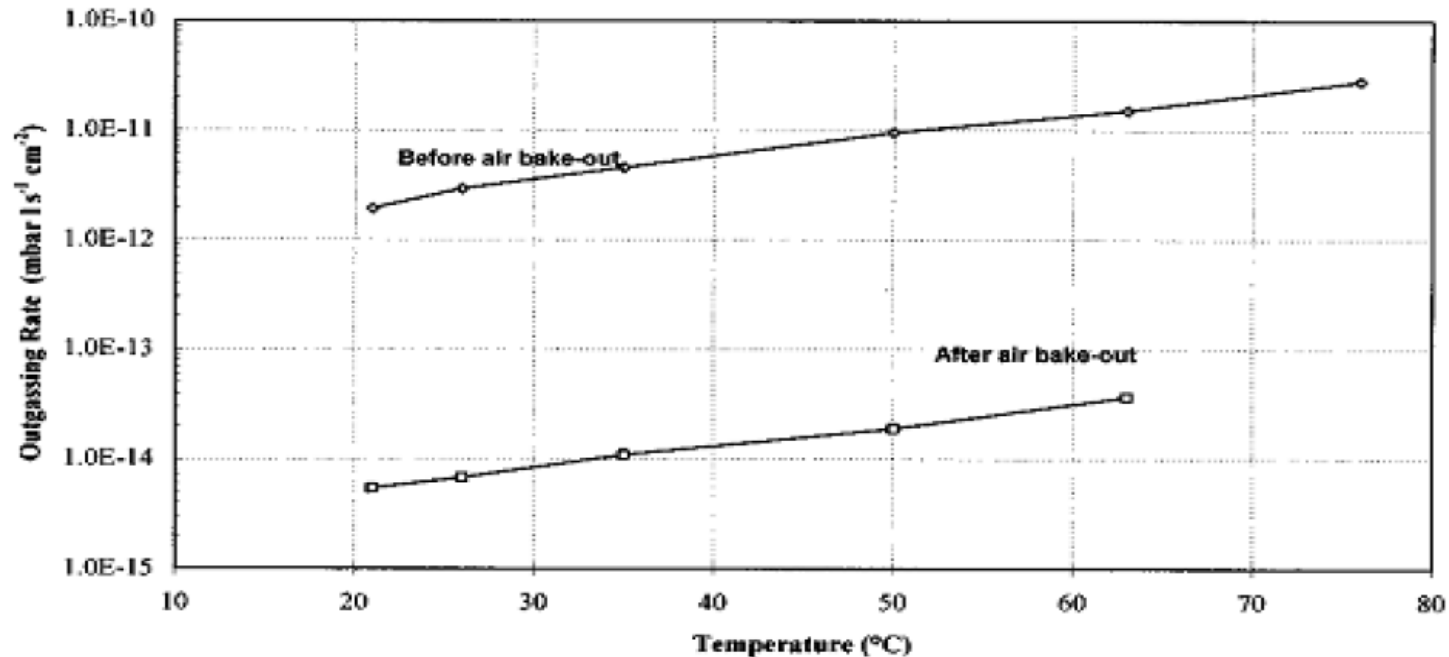

Figure 4. Hydrogen outgassing rate with and without air baking [7]
M. Bernardini et al [7] Hydrogen is most responsible gas of outgassing rates also in SS vacuum chamber. Heating the raw material at 400 °C in air was suggested as a money saving alternative to the classical vacuum heating at 950 °C. In this paper concluded that air bake-out drives out most of the hydrogen absorbed in the bulk stainless steel. Results show that bake-out in air is effective in reducing the hydrogen outgassing rate of a very large stainless steel vacuum chamber. The hydrogen content and the diffusion parameters for a 304 L type stainless steel have been measured by desorption tests on small samples. It is concluded that the effect of the heating treatment in air is mainly to reduce the hydrogen content. Outgassing rate can be decreased with baking of materials as shown in figure 4.